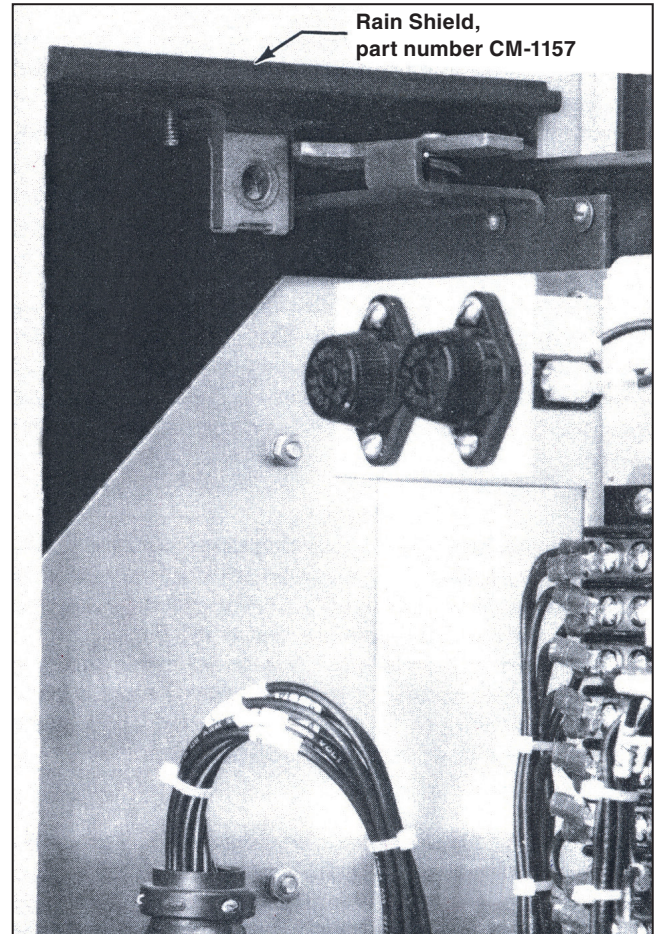

Figure 10. Installing the rain shield.
- STEP 17.** For all switchgear except System II Modular Metal-Enclosed Switchgear, install a Rain Shield, part number CM-1157 (furnished in the retrofit kit), at the top of the switchgear-bay stile. See Figure 10.